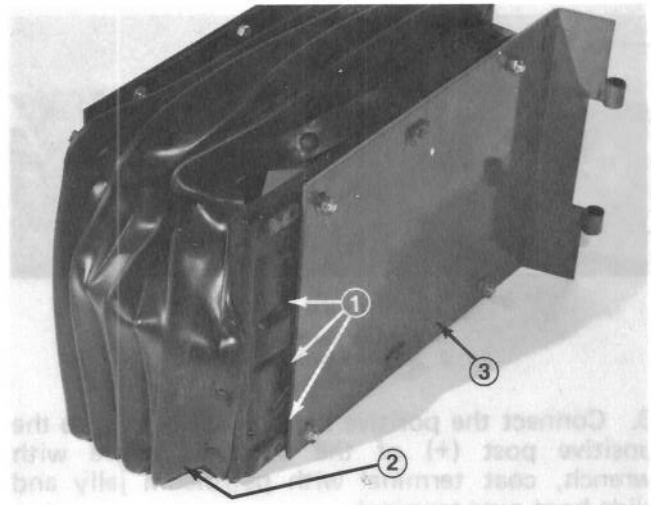

Figure 5
11. Unsnap rubber bellows and mount seat suspension to seat mount with (4) capscrews, lockwashers and nuts (Fig. 5).